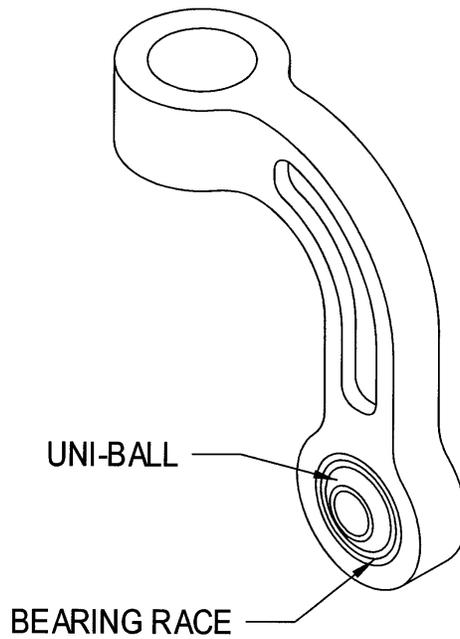

Figure 2. Uni-Ball Bearing Location
1. Using a suitable light source and inspection mirror, as required, visually inspect each of the dog leg assemblies for condition and/or excessive radial play/wear between the bearing uni-ball and the uni-ball bearing race (Refer to Figure 2). To accomplish this inspection, a second person should slightly rotate, in the pitch axis, the main rotor blade corresponding to the dog leg assembly being inspected.